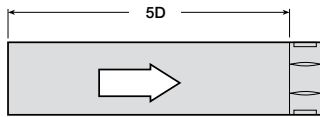

Figure 5.2
**Figure 5.2** Illustrates a ducted damper exhausting air into an open area. This configuration has a lower pressure drop than Figure 5.5 because entrance losses are minimized by a straight duct run upstream of the damper.